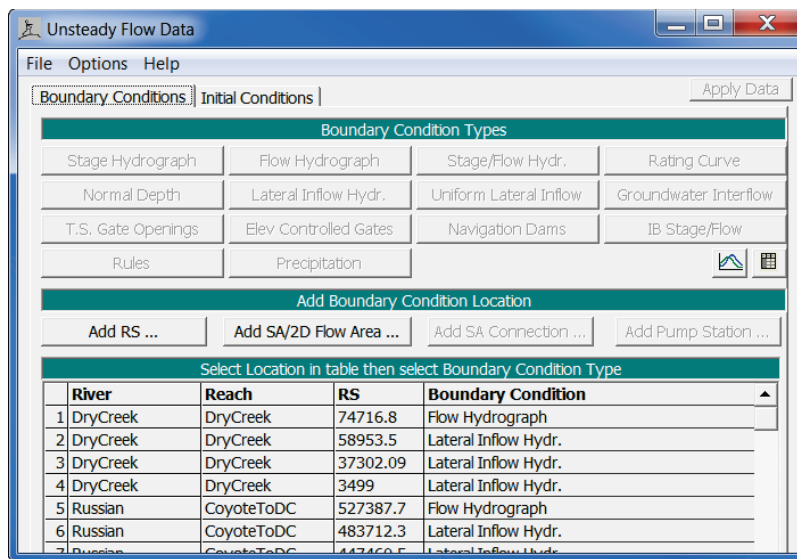

Figure L.40 HEC-RAS –Unsteady Flow Data Editor
- The RAS **Unsteady Flow Editor** will open (Figure L.40). This editor allows the user to edit boundary and initial conditions that have been defined for the unsteady flow data for a RAS unsteady flow model alternative. For further detail on this editor, reference the HEC-RAS User's Manual.
- From the **File** menu, click **Exit**, the RAS **Unsteady Flow Editor** (Figure L.40) will close.